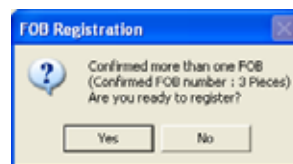

Fig. 5-36 Re-registration
- o Fig. 5-36 appears confirming the number of fobs, select **Yes**.